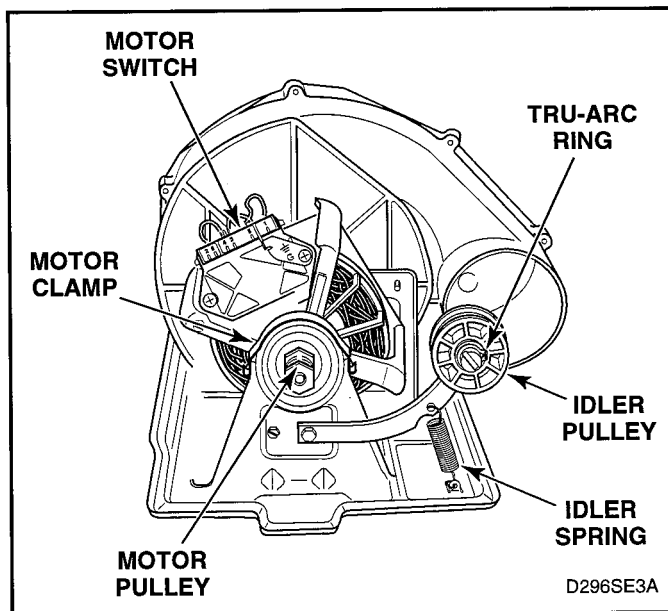

Figure 5-16
- Disengage motor wire harness terminal block from motor switch by pressing in on the movable locking tabs (located on each end of the terminal block) and pulling away from motor. See figures 5-16 and 5-18.
See figure 5-16 for motor and idler pulley removal.
2. Disconnect ground wire from motor. See figure 5-16.
3. Pry two motor clamps off motor mounting bracket with screwdriver. See figure 5-16, then lift motor out of mounting bracket.